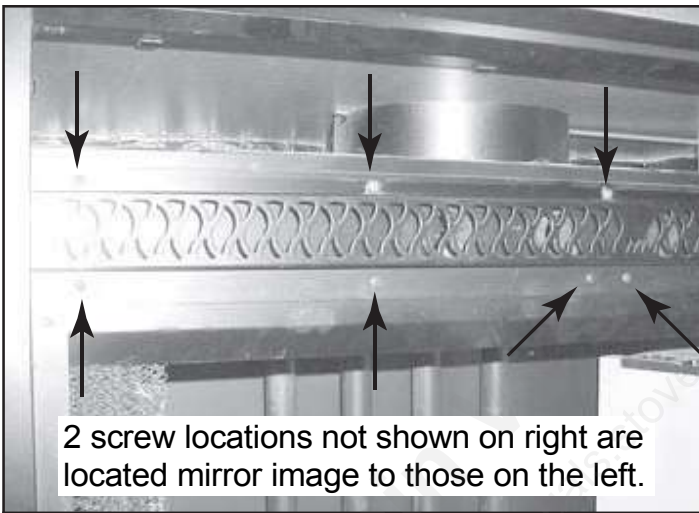

Figure 4 SC60 Remove Filigree
- **SC60 only** - Remove filigree by taking out five screws on top and six screws on bottom. See Figure 4.